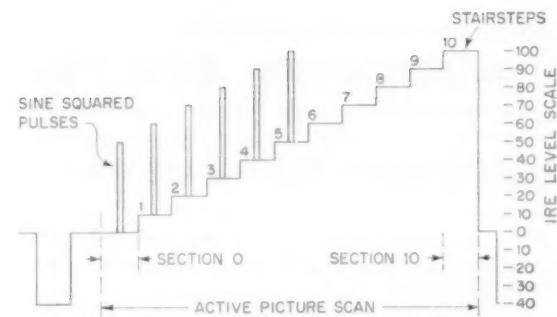

Fig. 1. Bands 1 through 4.
2.1.1 A stairstep signal consisting of a ten-step linear gray scale extending from blanking level to 100 IRE units respectively, as shown in Fig. 1.	1 through 4
(a) Bands 1 through 8, the same as the accompanying stair-step section level, as shown in Figs. 1 and 2.